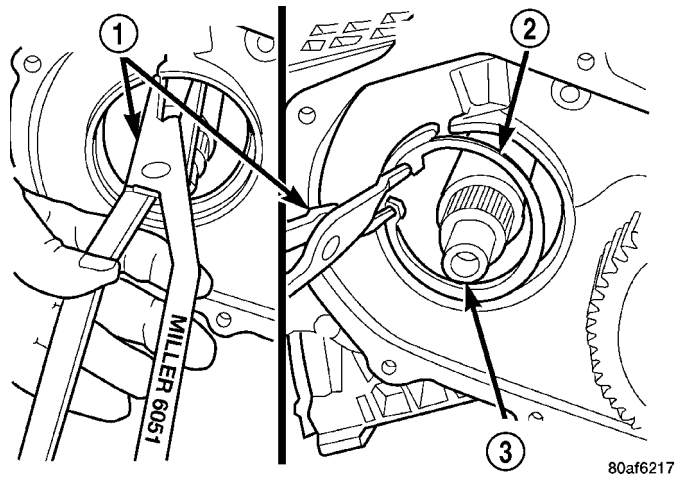

Fig. 114 Install Transfer Shaft Bearing Snap Ring
(27) Using Tool 6051, install transfer shaft bearing snap ring (Fig. 114).